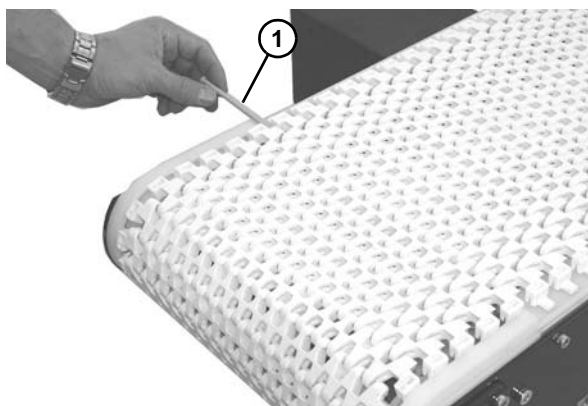

Figure 24
- Insert the belt rod (Figure 24, item 1).